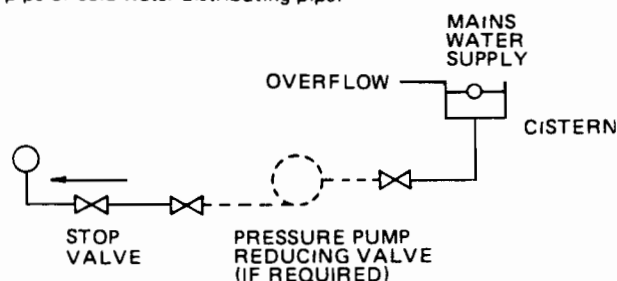

FIG. 5 CISTERN FILLING METHOD
(1) Cistern Method (see Fig.5)
OR (2) Booster Pump Method (see Fig.5)